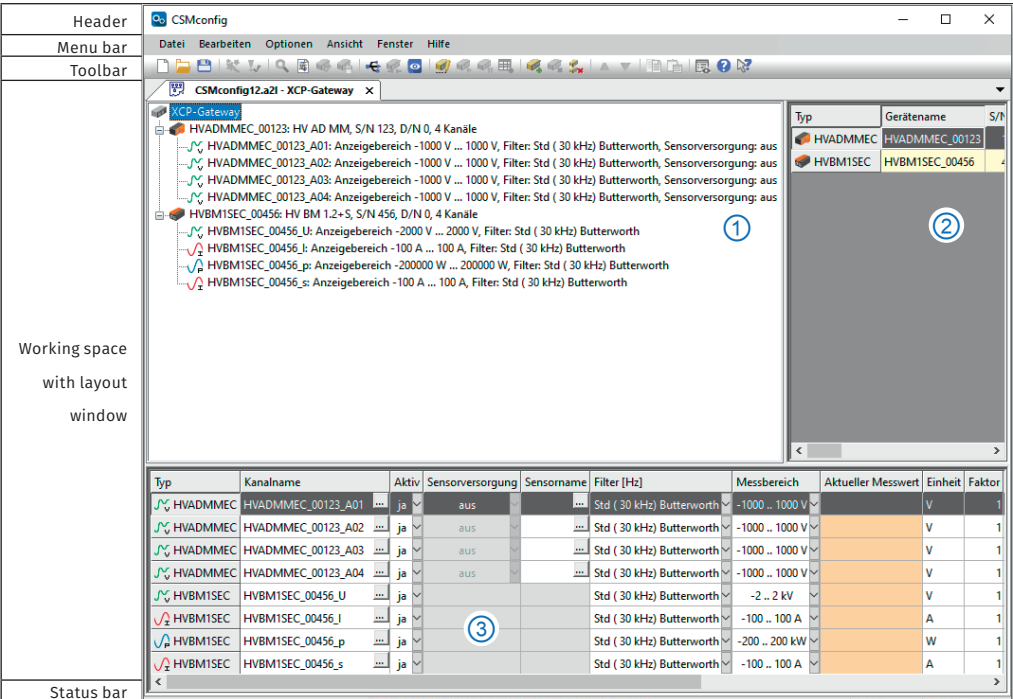

Fig. 6-2: CSMconfig user interface
- ▶ **Tree view** (Fig. 6-2, ①)
- ▶ **Device list** (Fig. 6-2, ②)
- ▶ **Channel list** (Fig. 6-2, ③)